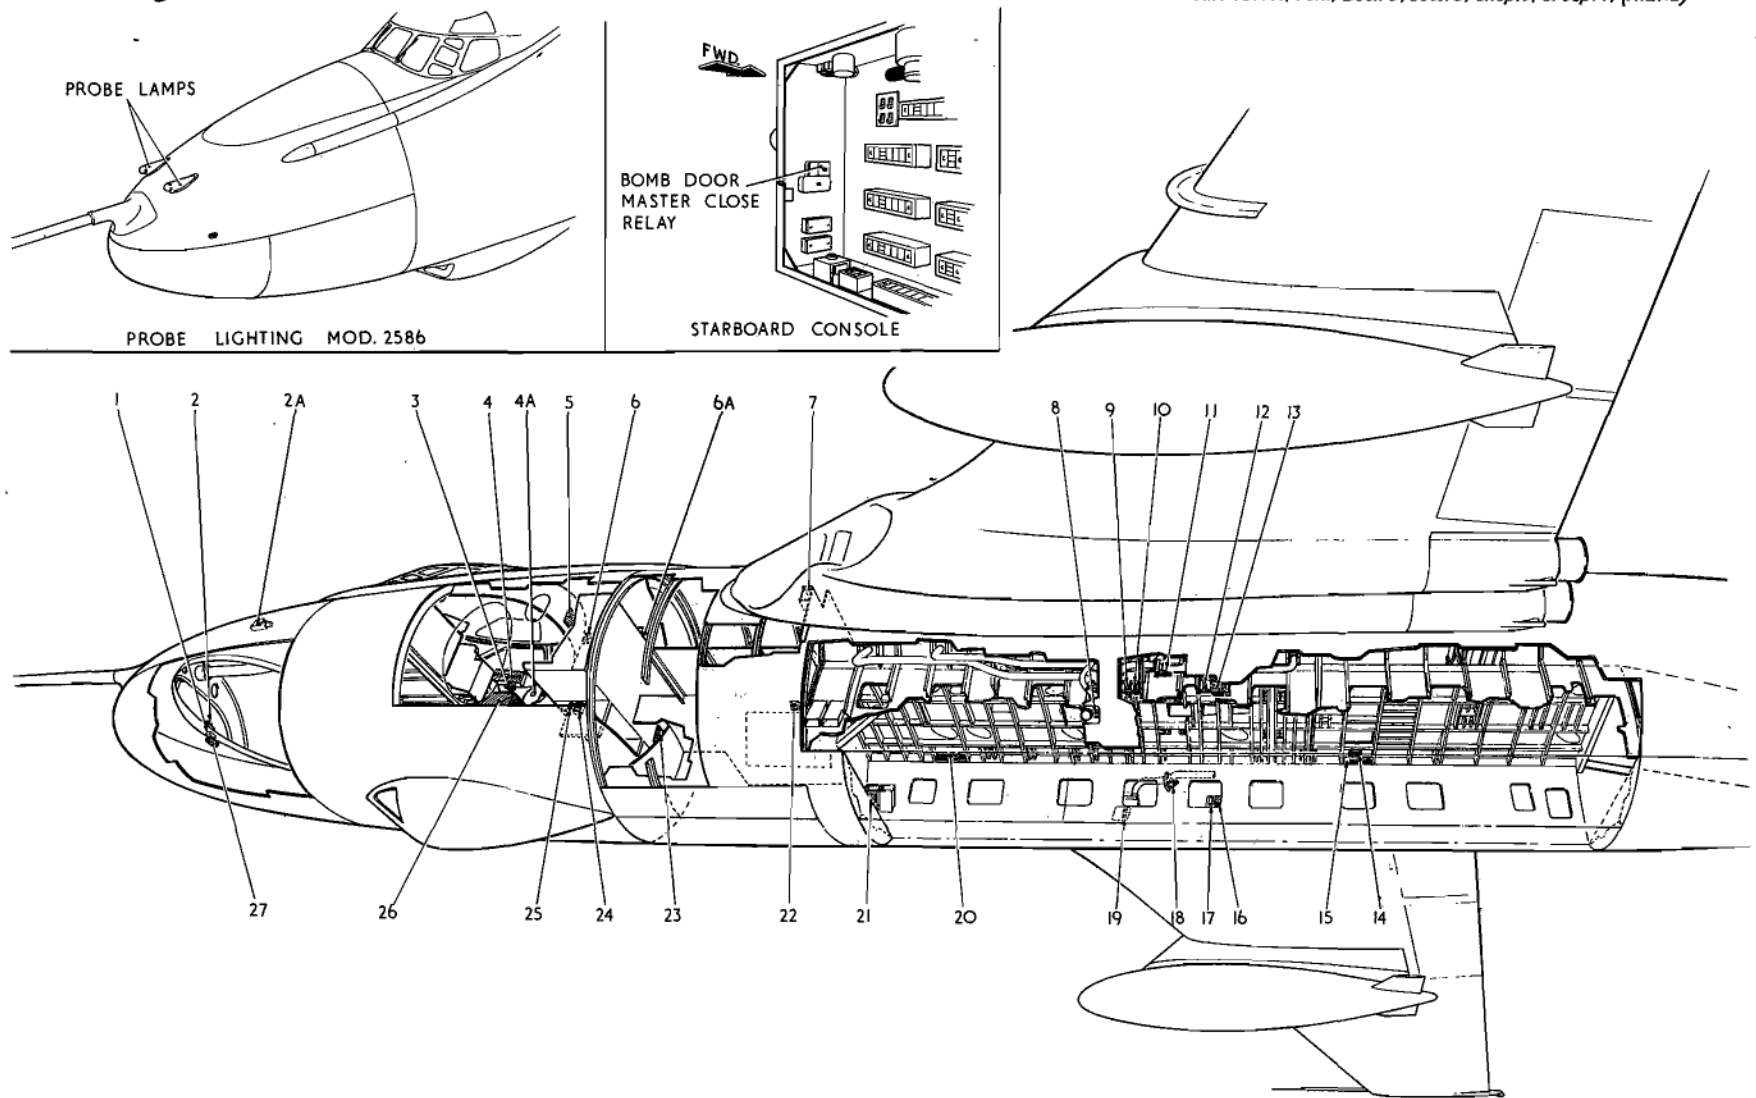

Fig. 1. Tanker/receiver fixed equipment
**Key to Fig. 1.—Tanker/receiver fixed equipment**